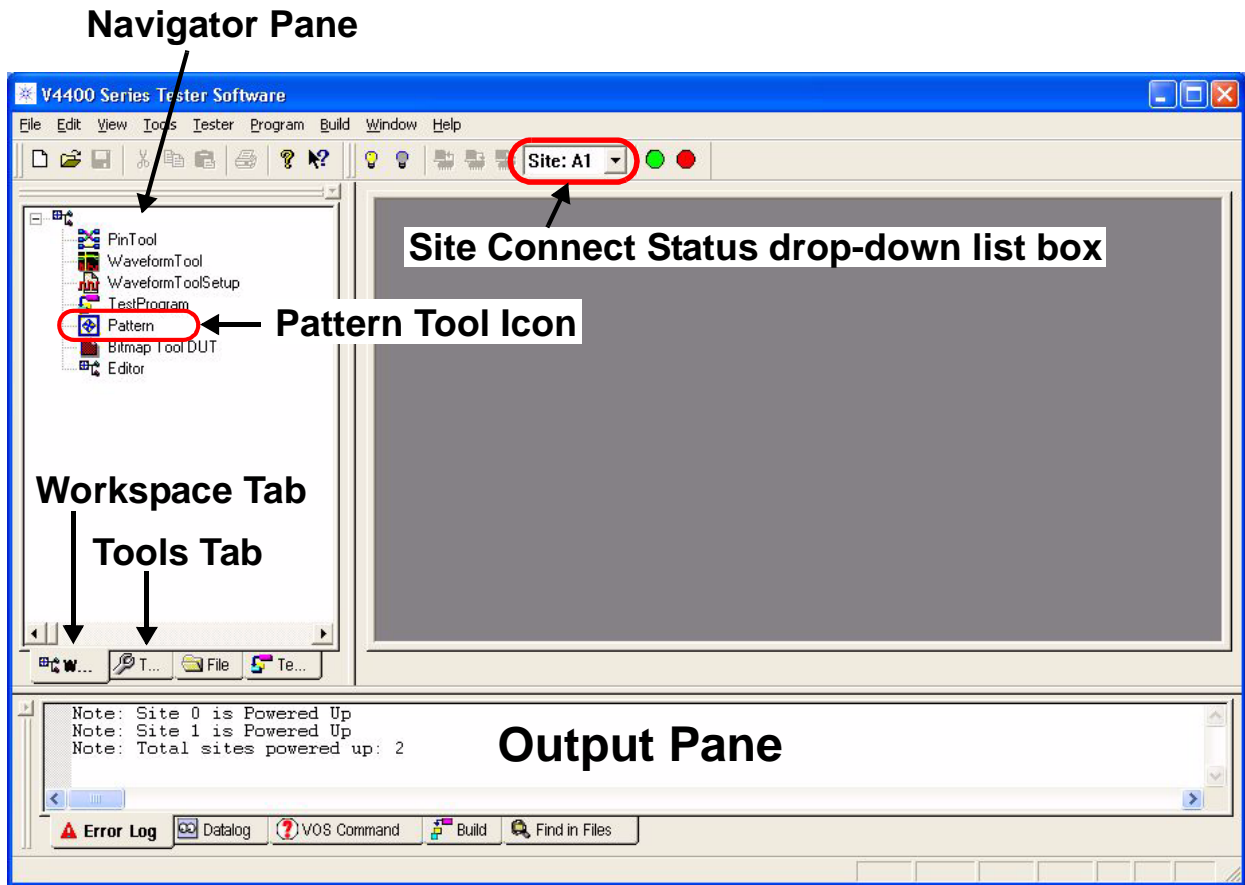

Figure 5-44. IDE Main Window Set Online
- 2 Selecting the yellow light bulb Set Online  toolbar button or corresponding Tester > Set Online command enables the IDE to connect to the tester when the Site Connect Status drop-down list box Site: A1 is enabled as shown in Figure 5-44.